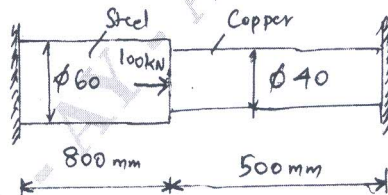

Fig.Q5(a)
- Determine the nodal displacement stress in each element and support reaction in the bar shown in Fig.Q5(a).